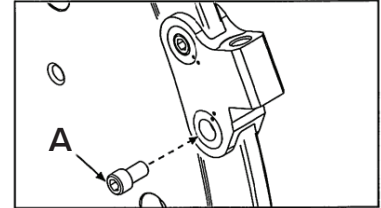

Figure 9
- head 5/8"–18 x 1 1/4" [Figure 9, Item A]. Then use an air impact gun set lower than the cap screws' recommended torque.